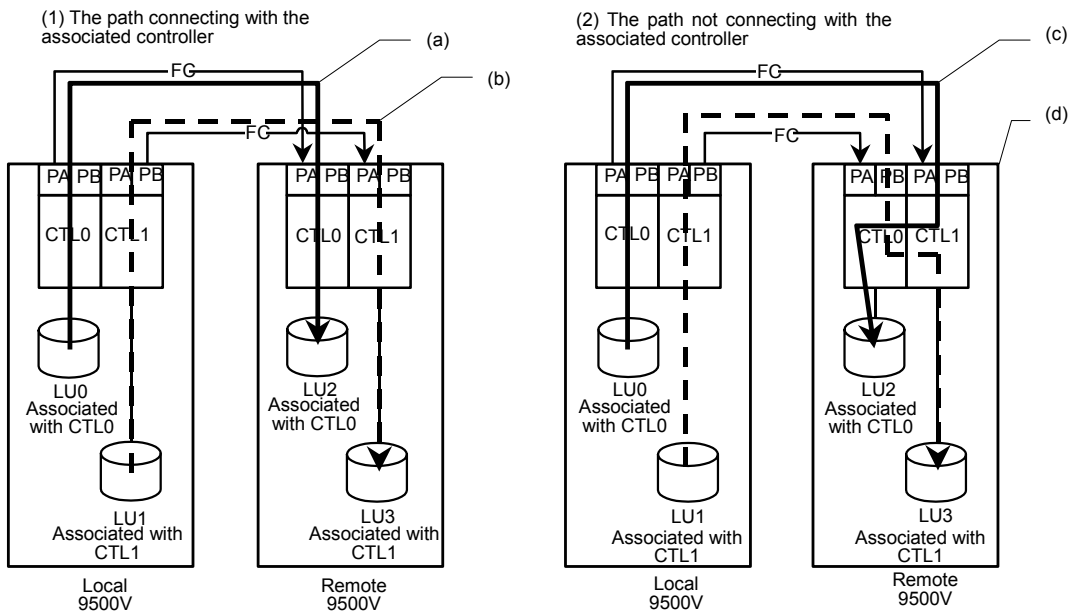

Figure 6.6 Examples of Path Connection
When the LUs on the local side and the remote side are paired, it is necessary to connect the same number of the controllers on the local side and the remote side. Therefore, (1) in Figure 6.6 is recommended.
In (2) in Figure 6.6, because the copy I/O of Synchronous TrueCopy 9500V between CTL0 and CTL1 on the remote side has to be executed, the performance deteriorates.